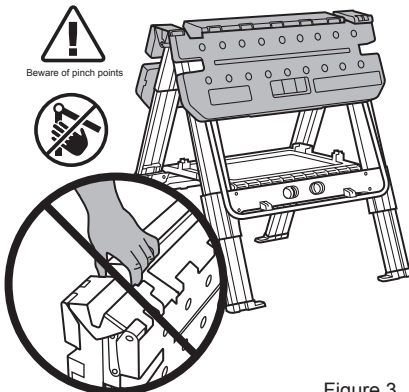

Figure 3
4. Open the legs fully until the tool tray is flat. The table legs and tool tray should create an "A" shape. (Figure 3)